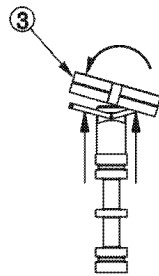
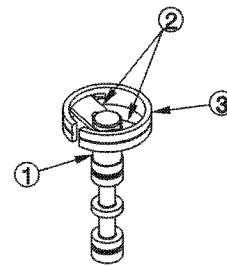

FIG. 3
FIG. 4
- Tilt the detent ring (item 3) over one of the legs, and align the groove on the inside of the detent ring with the end of the detent leg. Tilt the other side of the ring down, expanding it slightly, so that the other detent leg snaps into the detent ring groove. See Fig. 3. The completed assembly should look like Fig. 4.